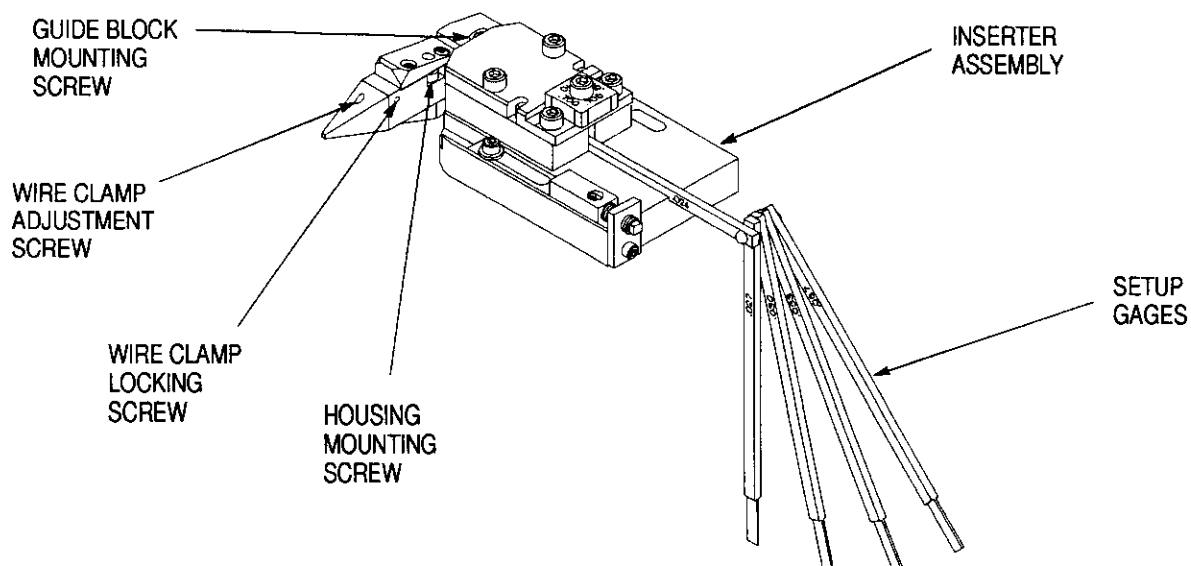

Figure 6
5. Locate the setup gage that is the same size as, or that is one size larger than, the measured wire. Insert the setup gage into the inserter assembly until the gage bottoms against the guide block. Refer to Figure 6.
#### D. Wire Clamp Force (Figure 6)